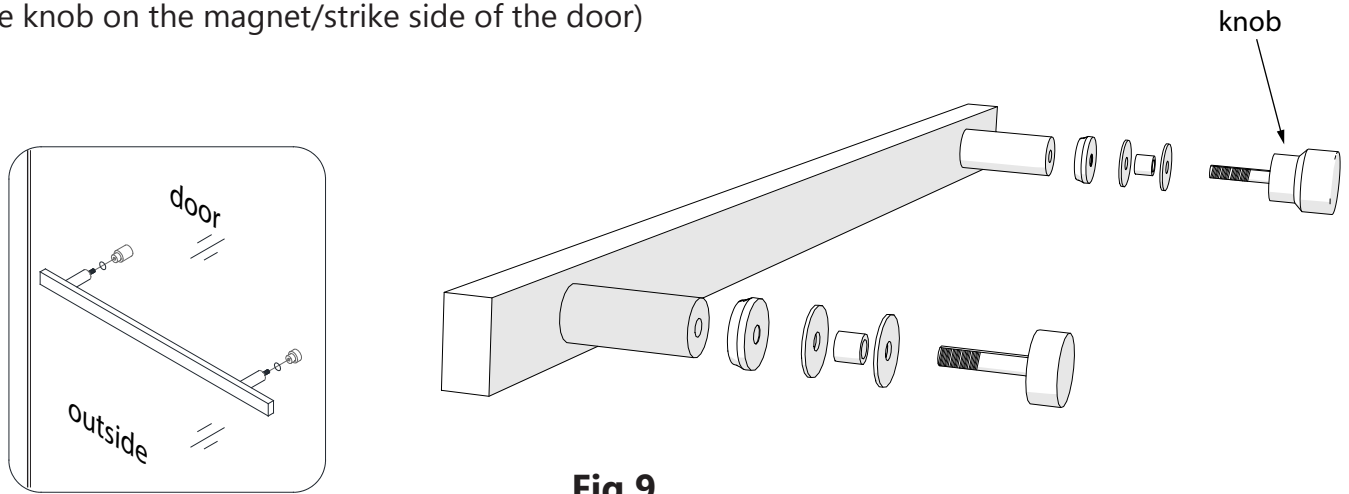

Fig 9
9. Install the **Handle (#06)** onto the outside of the **Door Glass (#04)**. (**Fig 9**)